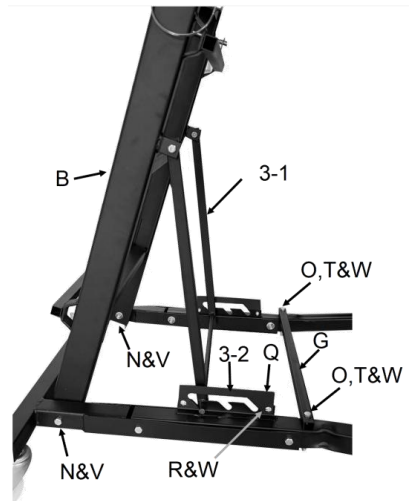

Fig. 3
3. Install the ladder assembly (B) by inserting a frame bolt (N) through each side of the base of a lock nut1 (V). Swing the ladder's angle support (Fig.3 3-1) into the height adjustment notches (3-2). Make sure the crossbar is firmly in place.
4. Place the leg cross support (G) on both legs (E&F), aligning the bolt holes. Insert a cross support bolt (O) through each end of the leg cross support and leg. Slide a washer (T) over one bolt and secure with a lock nut 2(W). Repeat with the other cross support bolt.